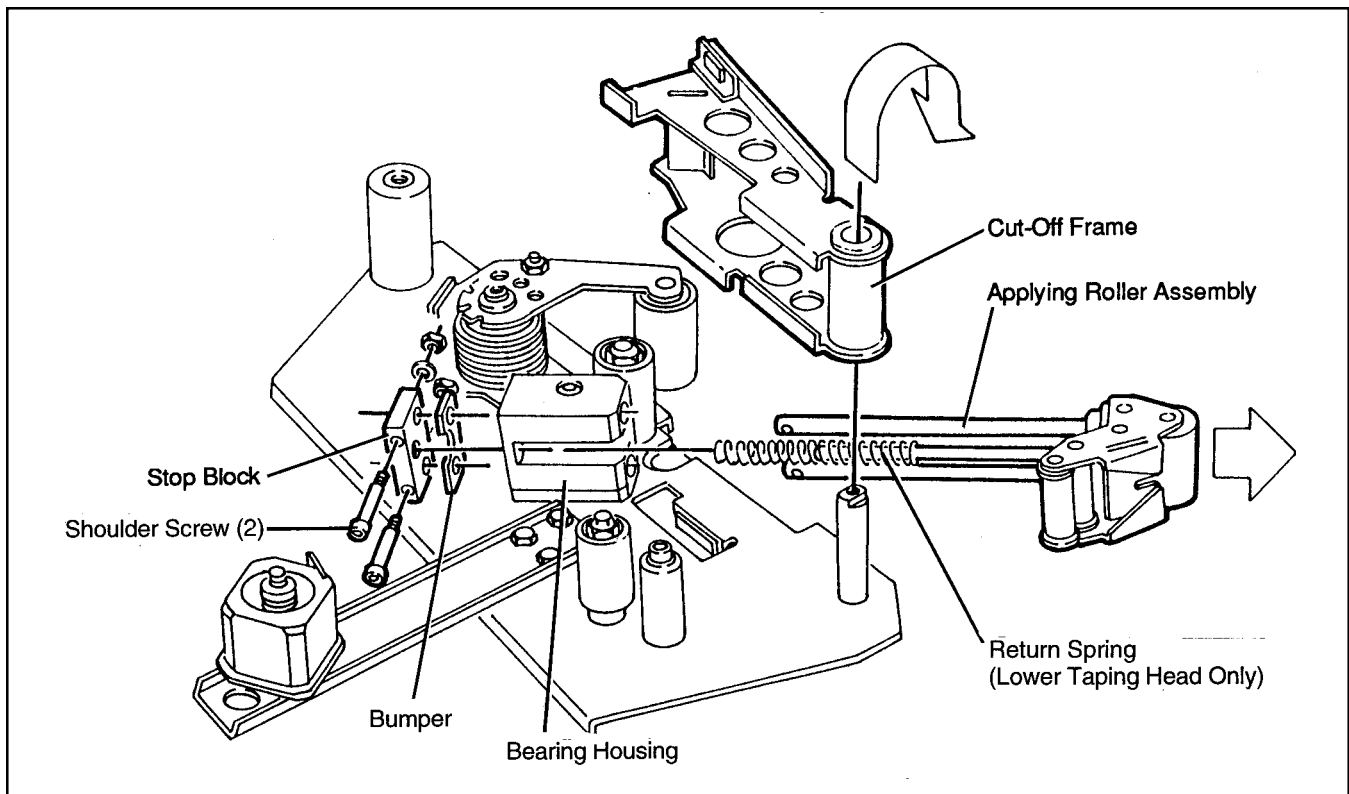

Figure 2-13
3. Remove the applying roller assembly as follows (refer to Figure 2-13):
- a. Remove the (2) shoulder screws, washers and nuts that fasten the stop block to the applying roller shafts.